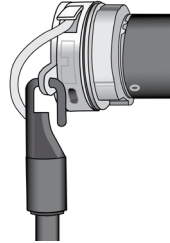

Figure 1: Wand Hook Connection
2. Insert the hook on the end of the wand into the eyelet on the motor head and push it all the way through so the wand hangs down freely **[Figure 1]**.